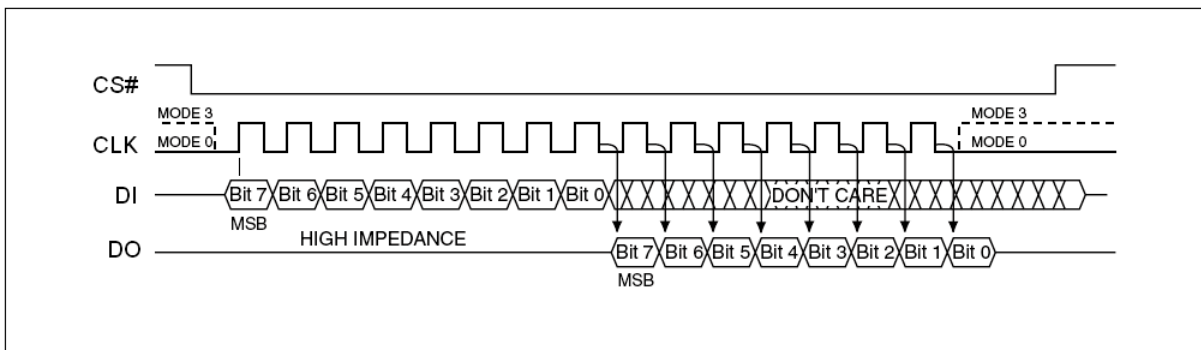

Figure 3. SPI Modes
The device is accessed through a SPI compatible bus consisting of four signals: Serial Clock (CLK), Chip Select (CS#), Serial Data Input (DI) and Serial Data Output (DO). Both SPI bus operation Modes 0 (0, 0) and 3 (1, 1) are supported. The primary difference between Mode 0 and Mode 3, as shown in Figure 3, concerns the normal state of the CLK signal when the SPI bus master is in standby and data is not being transferred to the Serial Flash. For Mode 0 the CLK signal is normally low. For Mode 3 the CLK signal is normally high. In either case data input on the DI pin is sampled on the rising edge of the CLK. Data output on the DO pin is clocked out on the falling edge of CLK.